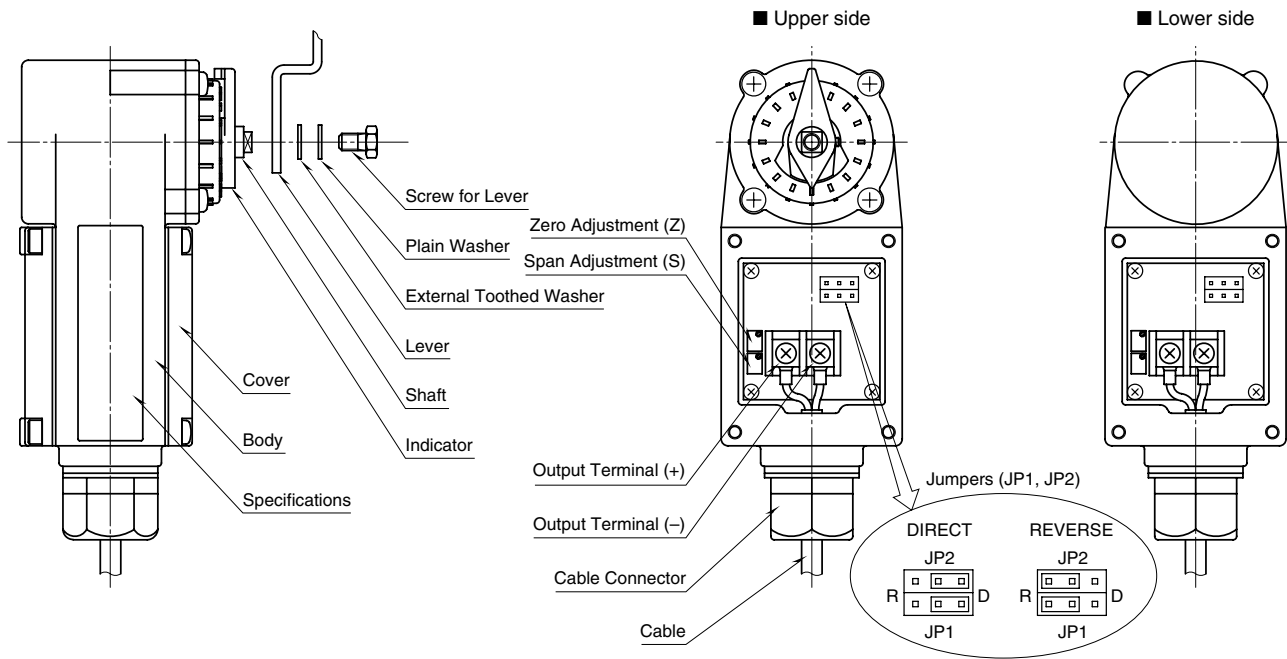

Figure 1
Connect the lever to the VOS2T unit with a screw included in the package, with a plain washer and a toothed washer between them as in Figure 1.
Open the VOS2T unit cover. Set the action direction\* with jumpers (JP1, JP2 in Figure 1) and adjust Zero (Z) and Span (S) behind it.
1) If you need reverse action, change the setting now. Remove the cover and set the jumpers JP1 and JP2 to R position according to Figure 1. Factory set zero point may be slid by changing the action direction. Re-adjust according to the following.